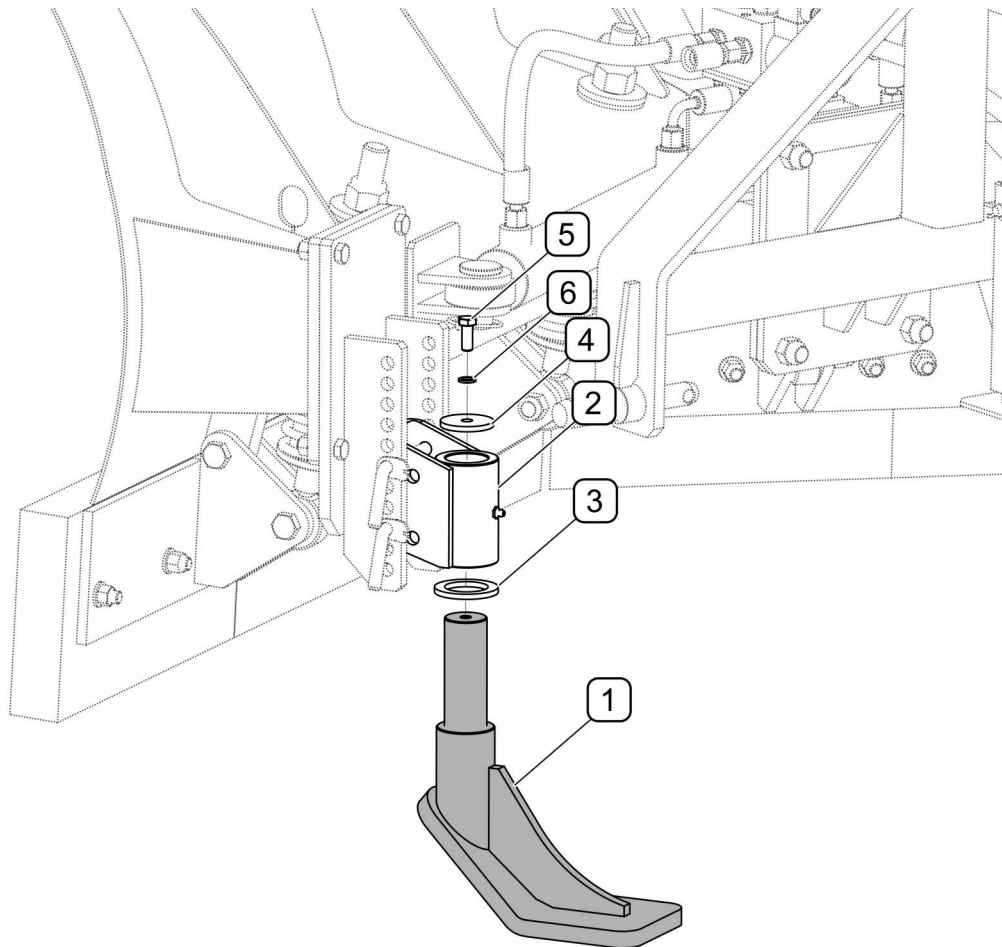

FIGURE 5.2 Slide replacement (option)
Excessively worn or damaged slides must be replaced (FIGURE 5.2). In order to do this raise the plough and support with sufficiently stable and strong supports. If the plough is hitched and raised on the front three-point linkage, protect it from falling and immobilise the tractor (turn off the engine and engage the parking brake.) Remove the screw (5) extend the stand (1) from its seat (2). Check the stand and other elements for damage or excessive wear. The list of slide working components including catalogue numbers is shown in TABLE 5.3